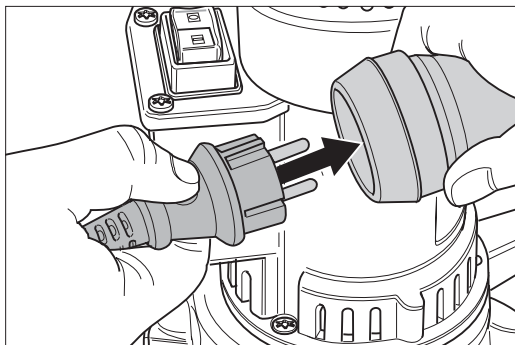

Fig. 5 Connect the motor cable to the extension cable.
- 1 Insert the plug of the motor cable in the coupling of the extension cable (Fig. 5).